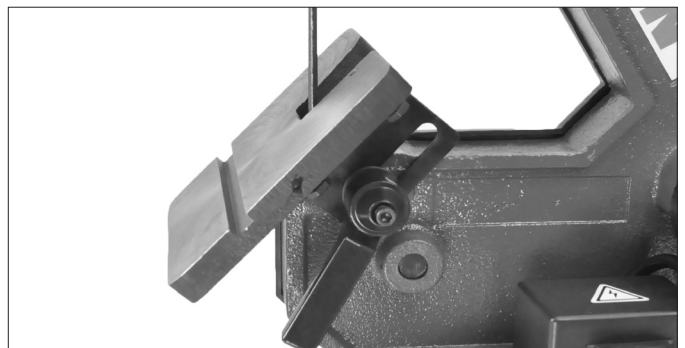

FIG. 27
4. To set the table to a different angle, loosen the handle and tilt the table forward until it is at the required angle. FIG. 27.